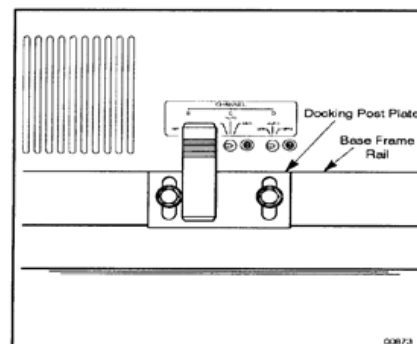

Figure 4-2 Docking Post Alignment
5. Position the docking post so that the plate is even with the top edge of the base frame rail. With a 1/2" wrench, snug the two screws so that the post is held in place but may be moved. (See Figure 4-2.)